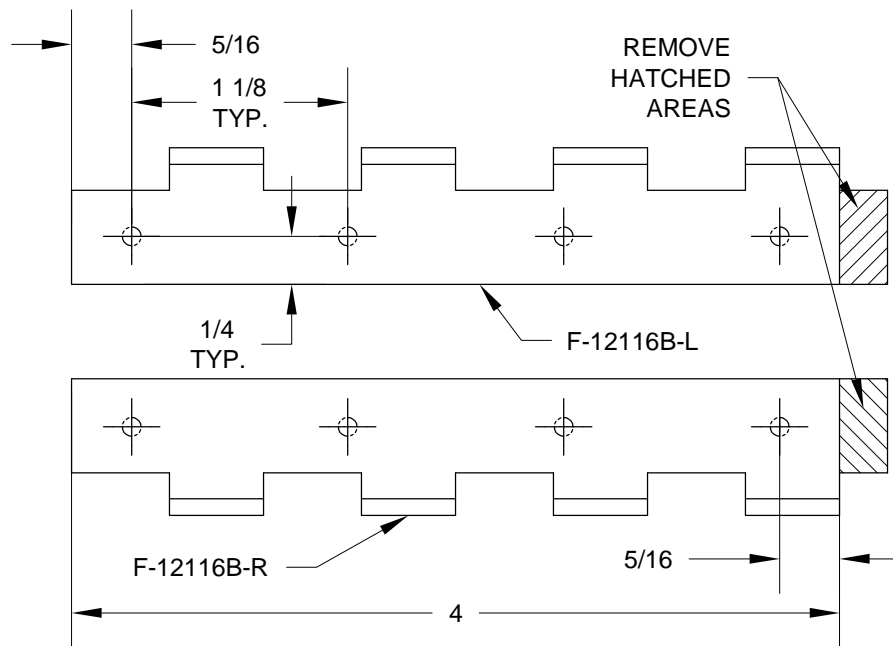

**FIGURE 8: BEVELING THE EYELETS (F-1201J SHOWN)**
Step 8: Bevel the eyelets along the curved portion of the F-1201J and F-1201K Upper Cowl Hinges using a flat file with smooth edges. See Figure 8.